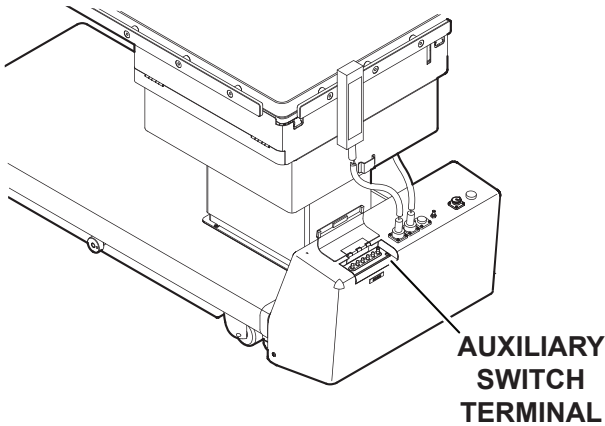

Figure 34. Auxiliary Switch Terminal
1. Open the lid to the auxiliary switch terminal, located on the control console (Figure 34).